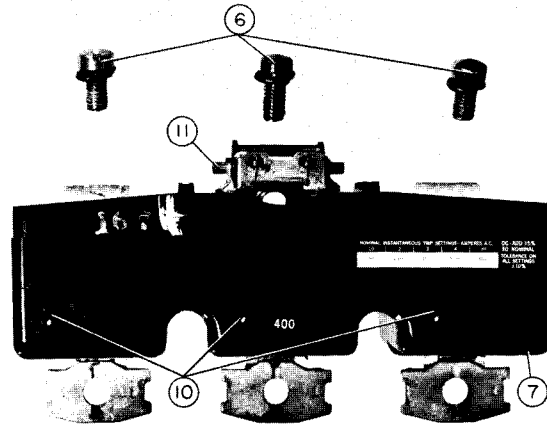
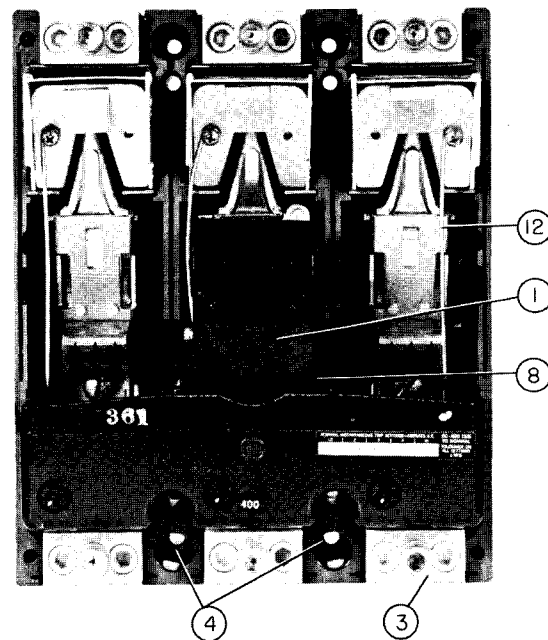

Fig. 2 — 3 Pole Trip Unit
Fig. 3 — Front View of Circuit Breaker Cover Removed
1. Loosen terminal lug screws (3, Fig. 3) and pull cable out of lugs. Bend cables clear of the circuit breaker.
2. On outside poles, remove screws and lockwashers (6, Fig. 2) from circuit breaker frame.
3. Hold mechanism handle toward line end of breaker frame and carefully lower trip unit into base. Make sure that latch pin in center pole (11, Fig. 2) engages slots (8, Fig. 3) in mechanism housing.
4. Tighten trip unit anchor screw (6, Fig. 2), retained in trip unit housing, securely to base. (Recommended torque 10 to 12 ft. lbs.)
5. Replace screws and lockwashers (6, Fig. 2) previously removed and tighten securely. (Recommended torque 10 to 12 ft. lbs.)
3. Remove screws and lockwashers (6, Fig. 2) from outside poles. If necessary, remove solderless lugs or rear connecting studs from load side of trip unit terminals.
4. Remove trip unit anchor screw (6, Fig. 2) in center pole. Loosen enough to disengage threads but leave screw retained in trip unit housing.